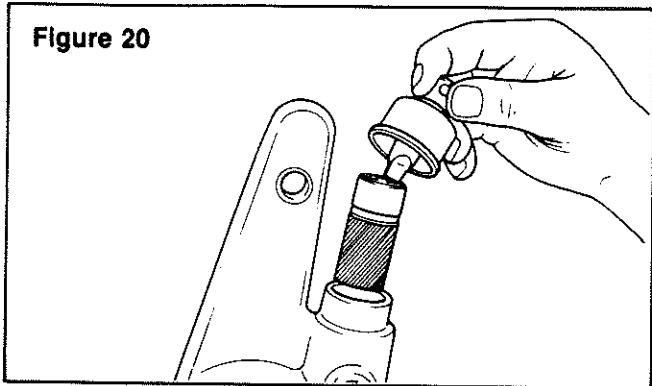

Figure 20
2. Remove the boot from the housing. Pull the actuator assembly from the housing. Figure 20.